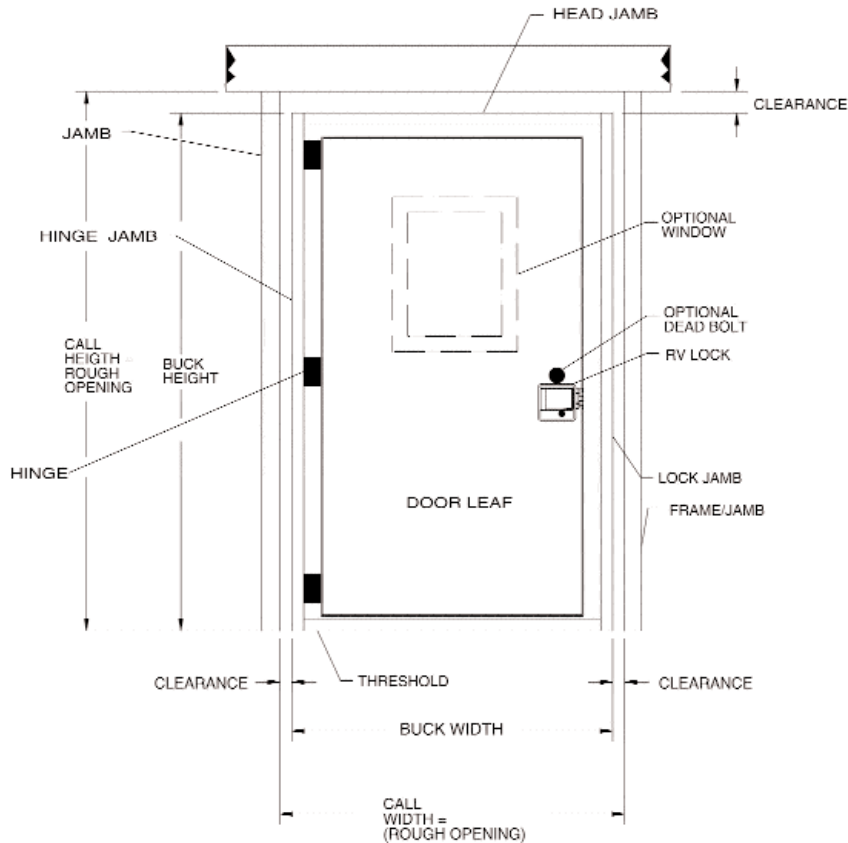

Figure 3
2. Make certain the rough opening (referred to as "R.O." in the remainder of document) is correctly sized and constructed either for a square corner door or a radius corner door. The R.O. equals the door call size in width and height (example: a 30 x 70 call size = 30" wide x 70" high R.O) unless otherwise noted in the sales literature. For specific door data in Figure 3, see the table on page 10. If applicable, the radius ("R") of the door is specific to the system. The R.O. sill must be square to the floor within 1/8" across its width. If the R.O. sill is out of square by a greater amount, it may not be possible to shim and square the door in the opening.
Door Terminology - Become familiar with the terminology used throughout these instructions by studying figure 3.